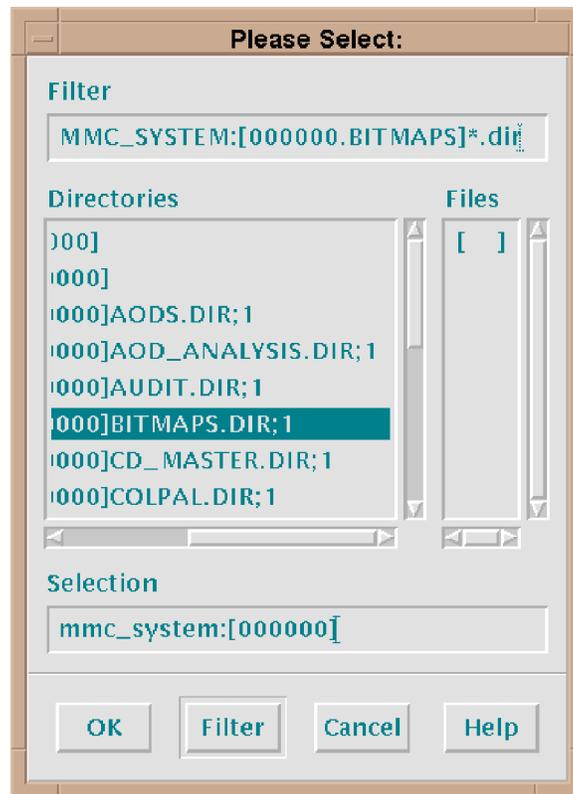

Fig. 35 — File selection window: MMC files to be archived to CD
- 6) Other Data: Use this option to archive any other data on the MMC system. (It is particularly important to backup the *bitmaps directory* on a regular basis). MMC will display a verification message (select *Yes* to proceed) then a **File Selection Window** to help the user find the directory and file(s) to be included (Fig. 35). After selecting the data files, MMC will guide the user through the necessary steps to Premaster the ISO Image.